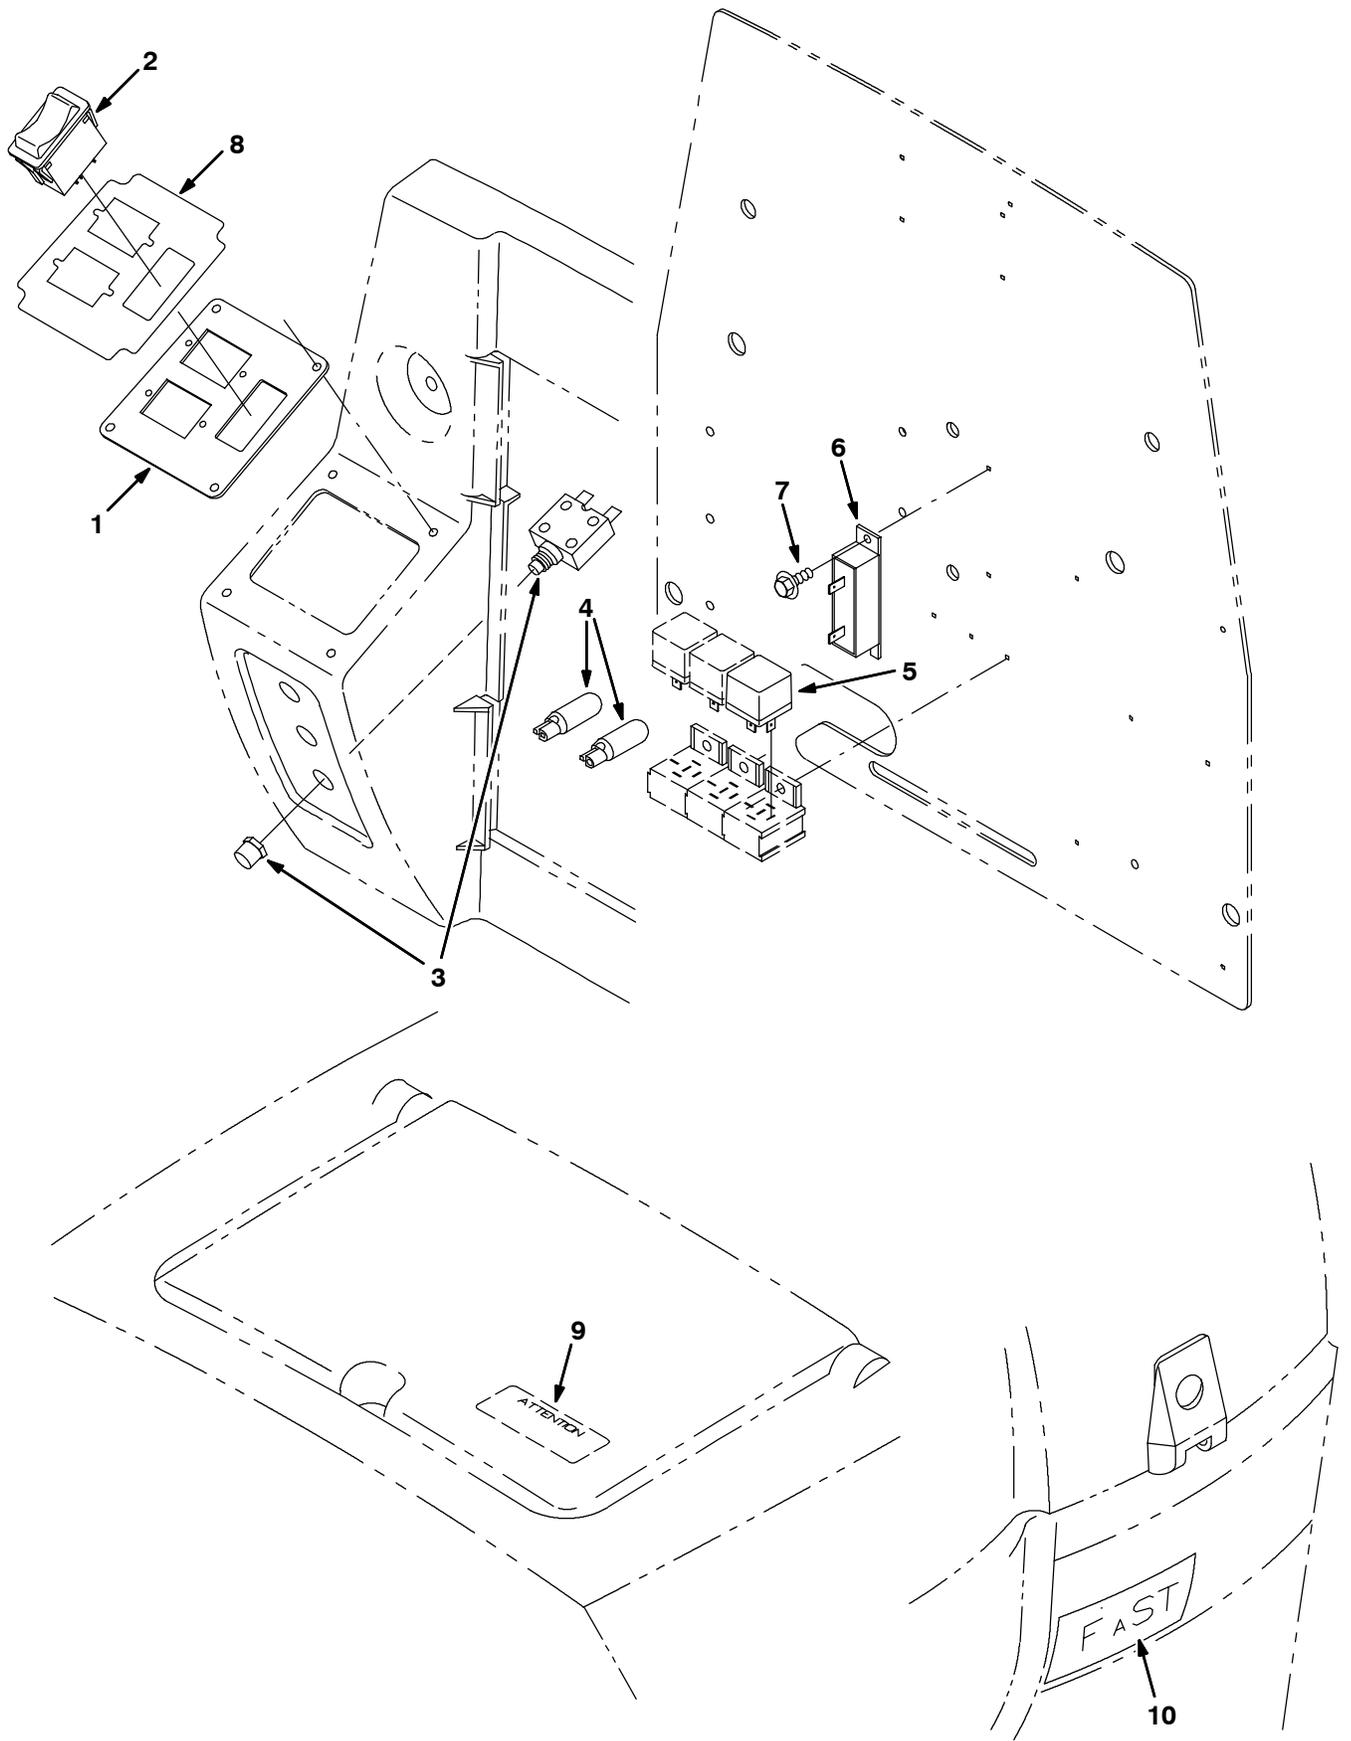

FIG. 7 - FaST™ Operator Console Group
9. Install circuit breaker 383721 in the #6 position on the left side. (Refer to FIG 7)
4. Apply decals to machine. (Refer to FIG 7)
FaST™ Operator Console Group (Fig. 7):